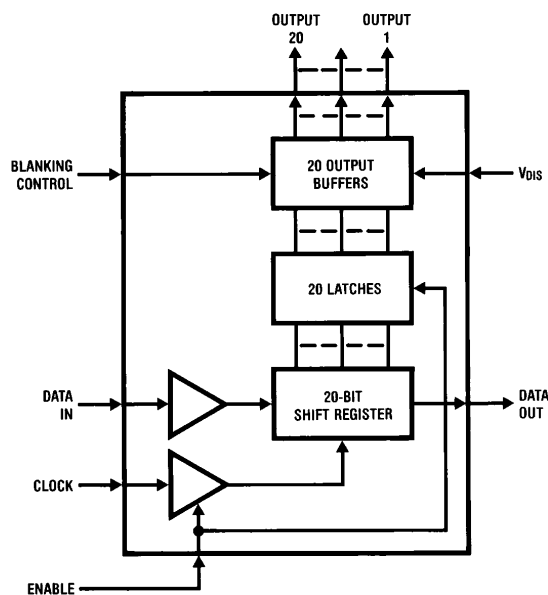

FIGURE 1
This product is specifically designed to drive multiplexed or non-multiplexed high voltage alphanumeric or dot matrix vacuum fluorescent (VF) displays. Character generation is done externally in the microprocessor, with a serial data path to the display driver. The MM58242 uses three signals, DATA IN, CLOCK and ENABLE, where ENABLE acts as an external load signal. Display blanking can be achieved by means of the BLANKING CONTROL input, and a logic '1' will turn off all sections of the display. A block diagram of the MM58242 is shown in Figure 1.